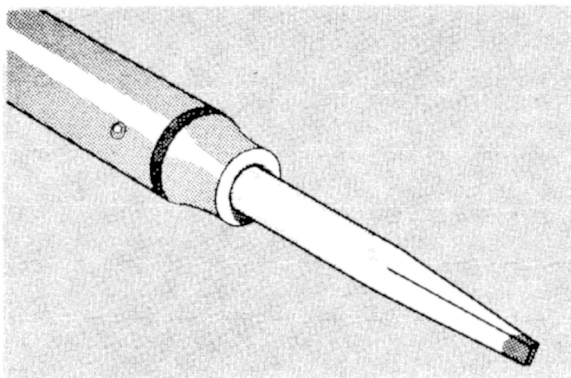

Fig. 4-1. Soldering iron tip properly shaped and tinned.
Because of the shape of the terminals on the ceramic strips, it is advisable to use a wedge-shaped tip on your soldering iron when you are installing or removing parts from the strips. Fig. 4-1 will show you the correct shape for the tip of the soldering iron. Be sure to file smooth all surfaces of the iron which will be tinned. This prevents solder from building up on rough spots where it will quickly oxidize.
2. Prepare the tip of the iron as shown in Fig. 4-1.